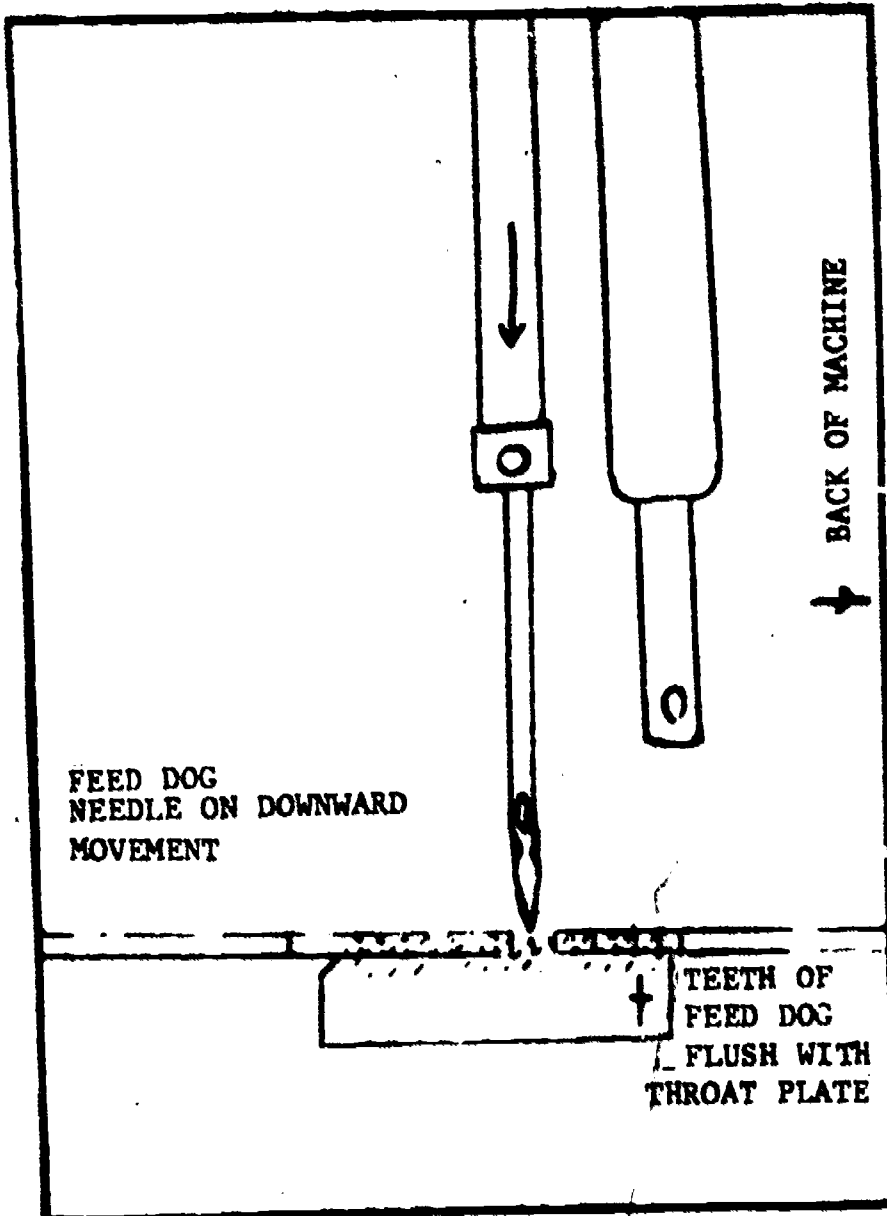

Figure 27. Adjust Needle With Feed Dog.
2. Turn the balance wheel in the direction of operation until the feed dog is as far back as it will go and on the down stroke, see figure 27.
7. Holding feed mechanism with right hand, turn balance wheel in direction of operation until point of needle is on down stroke and ready to enter material, figure 27.